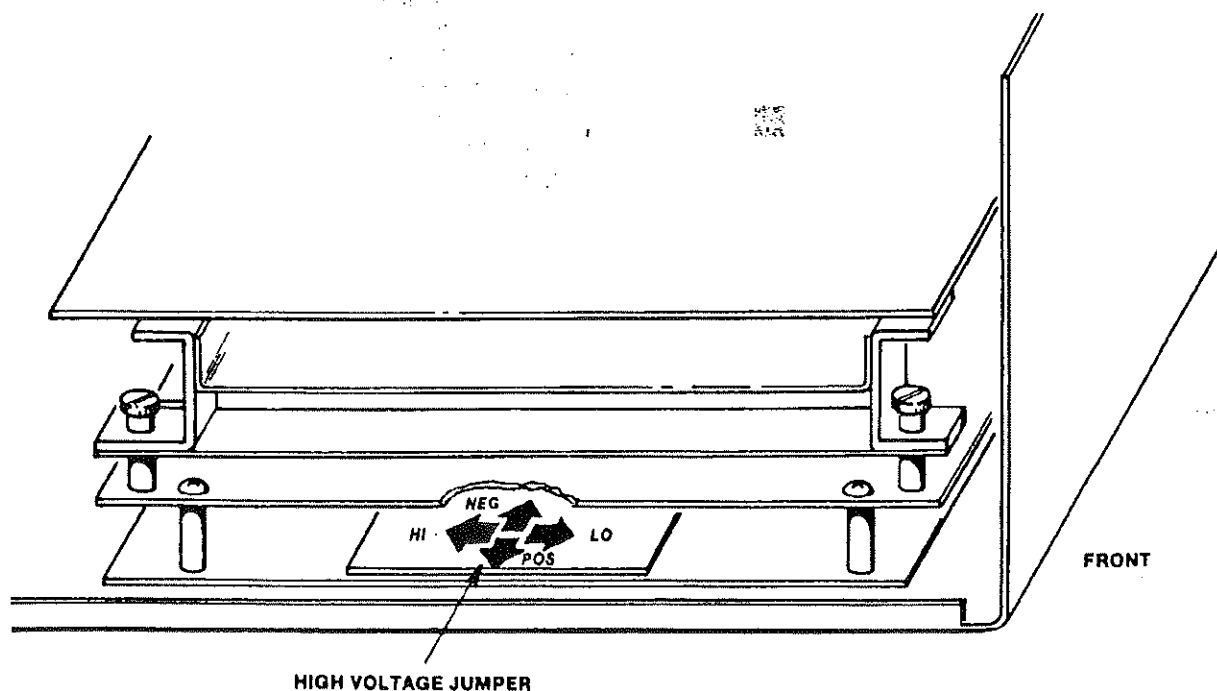

Fig. 3.1. Location of High-Voltage Polarity Jumper.
4. Locate the high-voltage polarity jumper board. The polarity jumper board is located on the edge of bottom board in the stack of boards. See Fig. 3.1.
6. Make the setting as shown in Fig. 3.1.